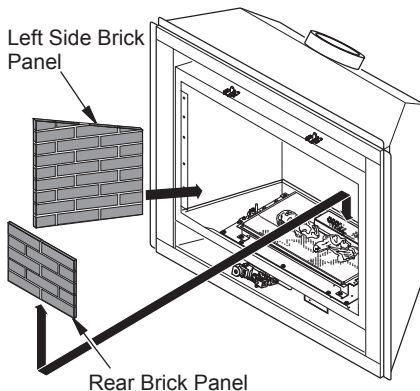

Figure 40 - Installing Rear Brick Panel
8. Install rear brick panel first. Rest bottom edge of panel on back edge of burner assembly (see Figure 40).
9. Install left side brick panel by sliding it between burner assembly and side of firebox (see Figure 40).